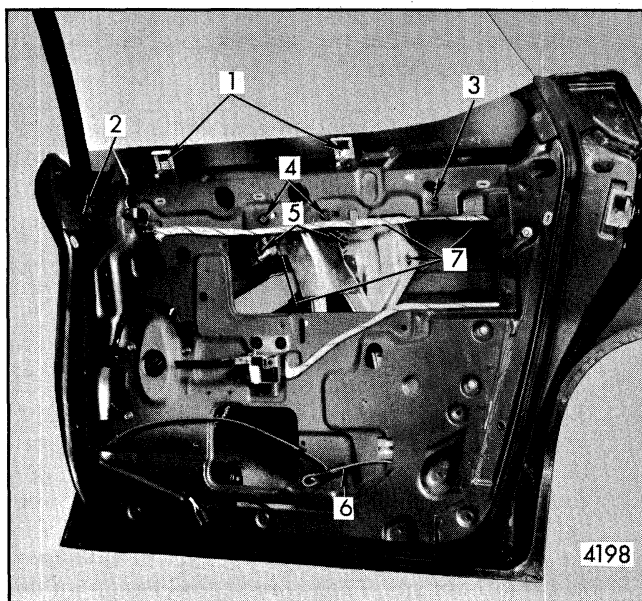
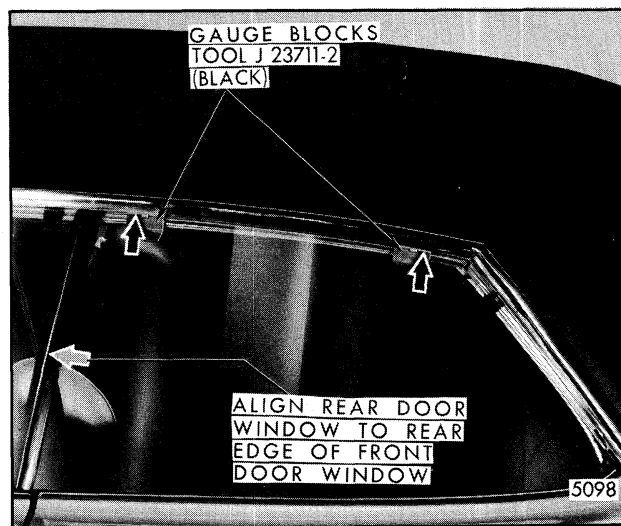

Fig. 5-147-Rear Door Window Removal and Adjustments - "B and C-39, 49" Styles
Fig. 5-149-Rear Door Window Alignment - "B and C-39, 49" Styles
1. **WINDOW NOT PARALLEL WITH SIDE ROOF RAIL WEATHERSTRIP** - A rotated window condition (glass cocked in opening) can be corrected by loosening front and rear up-travel stops ("2" and "3", Fig.5-147) and lower sash guide plate screws ("7", Fig.5- 147). Position glass with upper edge parallel to side roof rail weatherstrip. Then torque lower sash guide plate screws to 60 to 90 inch-pounds and raise glass to desired height to establish proper contact with side roof rail weatherstrip. Torque up-travel stop screws to 60 to 90 inch-pounds.
2. **WINDOW TOO FAR INBOARD OR OUTBOARD ALONG UPPER EDGE** - Loosen upper end of center guide ("5", Fig.5-147) and belt trim support retainers ("1", Fig.5-147) and position guide inboard or outboard as required. Outboard adjustment of guide assembly moves upper edge of glass inboard. Conversely, inboard adjustment moves upper edge of glass outboard. With glass in a full-up position, position trim support retainers against inner surface of glass and torque previously loosened attaching screws to 60 to 90 inch-pounds.
3. **WINDOW TOO HIGH OR LOW IN UP POSITION** - Loosen front and rear up-travel stops ("2" and "3", Fig.5-147) and operate window to desired position to establish proper contact with side roof rail weatherstrip. Torque up-travel stop screws to 60 to 90 inch- pounds.
4. **WINDOW TOO FAR FORWARD OR REARWARD** - Loosen upper center guide support ("4", Fig.5-147) and reposition glass as necessary. Torque guide support attachments to 60 to 90 inch-pounds.
5. **WINDOW MECHANISM BINDS WHEN OPERATING** - Ease of window operation and window stability depends to a great extent on the adjustment of the belt trim support retainers ("1", Fig.5-147). The trim support retainers should contact the glass throughout the full cycle of the window. Due to slight variations in glass contour, however, in some cases the strip may lose contact with the glass half-way
2. Detach the side roof rail weatherstrip at the lower rear corner (screw retained at rear edge) and carefully remove from the retainer over the door window as shown in Figure 5-149.
3. Lower front and rear door windows and install gauge blocks, tool J-23711-2 (black), or equivalent into the side roof rail weatherstrip retainer above the upper front and rear corners of the glass, as shown in Figure 5-149.
4. Working from inside the body with the door in the closed position, loosen front and rear up-travel stops ("2" and "3" Fig. 5-147) and belt trim support retainers ("1", Fig. 5-147).
If upper edge of glass contacts both gauge blocks simultaneously (refer to Fig. 5-149), proceed with step 6.
If upper edge of glass does not contact both blocks simultaneously, completely loosen lower sash guide plate stud nuts ("7", Fig. 5-147) and manipulate the glass until the upper edge of glass contacts both blocks in the full-up position. Tighten guide plate stud nuts.
6. Raise rear door window until contact is established between upper edge of glass and both upper gauge blocks. Raise front door window. If the front edge of the rear door window is properly positioned in relation to front door window, as shown in Figure 5-149, proceed with step 7. If rear door window is not properly positioned loosen fore and aft adjustment on guide cam support ("4", Fig. 5-147) and move glass forward or rearward as necessary.
7. Completely loosen upper end of (center) guide cam support ("5", Fig. 5-147). Apply firm outboard pressure against the upper end of the guide cam to remove slack in the system and to hold the upper inner edge of the glass inboard against the outer edge of the gauge blocks as shown in Figure 5-149. Then tighten (center) guide cam support attaching screws.
2. With glass in a partially down position, loosen front and rear window belt trim support retainers ("1", Fig. 5-147) and up-travel stops ("2" and "3", Fig. 5-147). Then rotate the stops sufficiently to allow glass to bypass stops when removing window.
3. With window in a partially-down position, remove lower sash guide plate to glass attaching stud nuts ("7", Fig. 5-147), then tilt upper edge of glass inboard to disengage guide plate from studs on glass. Remove glass from door by lifting rear edge of glass upward, then slide glass rearward to align guide plate studs with notch provided at rear of door inner panel.